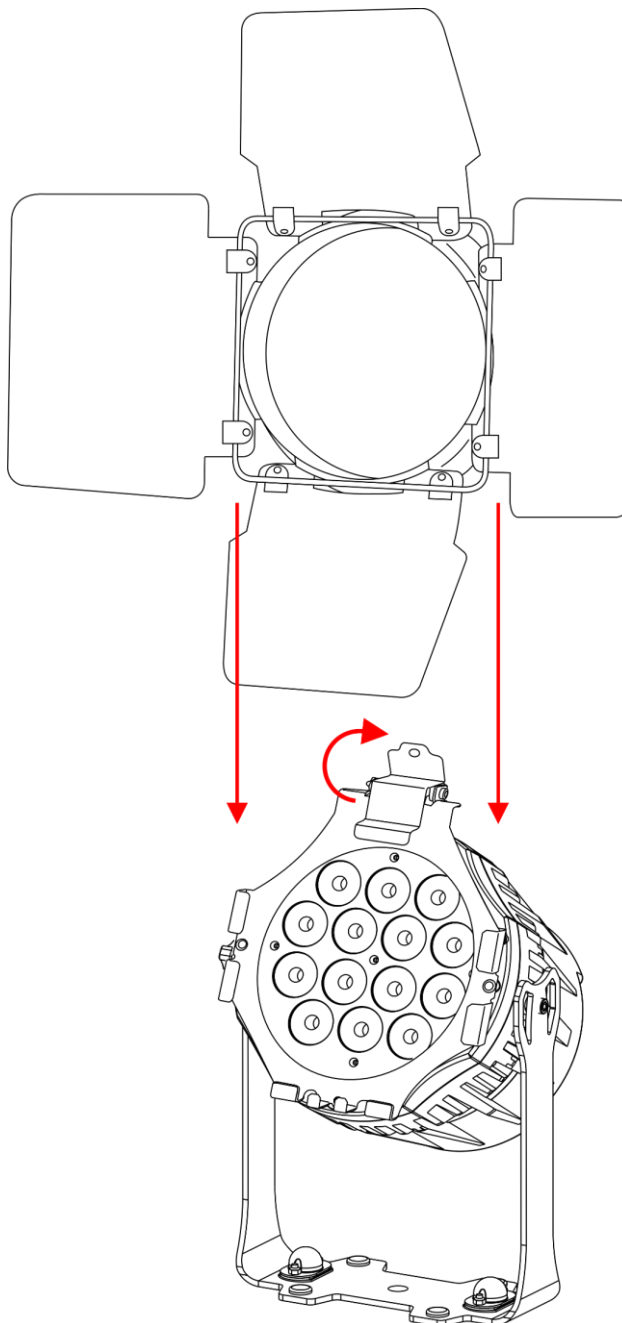

Fig. 08
- 03) Slide the barndoor into the accessory frame. See Fig. 08.